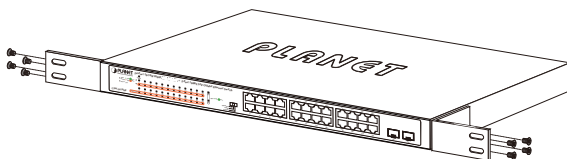

Figure 5-1: Attaching the Brackets to the 802.3at PoE+ Switch.
- Step 2:** Attach a rack-mount bracket to each side of the 802.3at PoE+ Switch with supplied screws attached to the package. Figure 5-1 shows how to attach brackets to one side of the 802.3at PoE+ Switch.